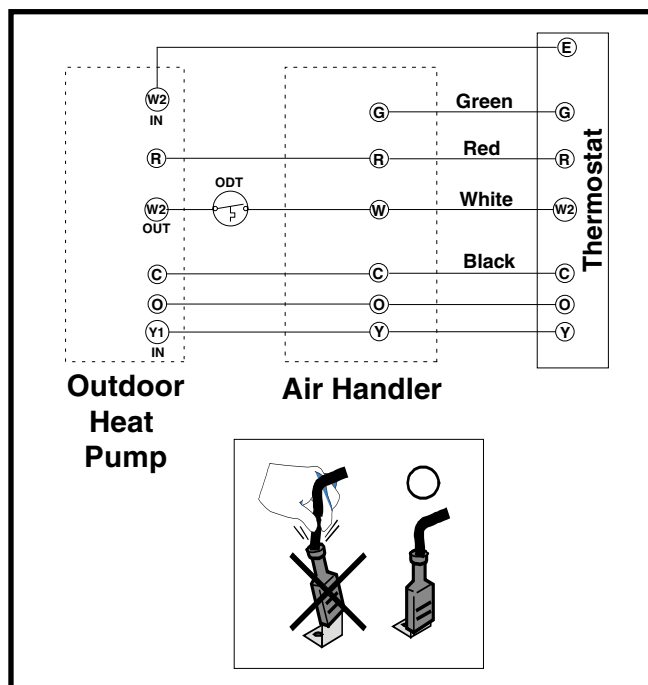

Figure 2. Typical Thermostat Connections
- Thermostat connections should be made in accordance with the instructions supplied with the thermostat and the indoor equipment. A typical installation with a heat pump thermostat and air handler is shown in Figure 2.